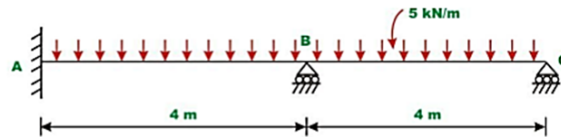

Figure 10
8. Analyze the continuous beam shown in Figure 10 assume that the supports are unyielding. Assume EI to be constant for all members using direct stiffness method. [14M]